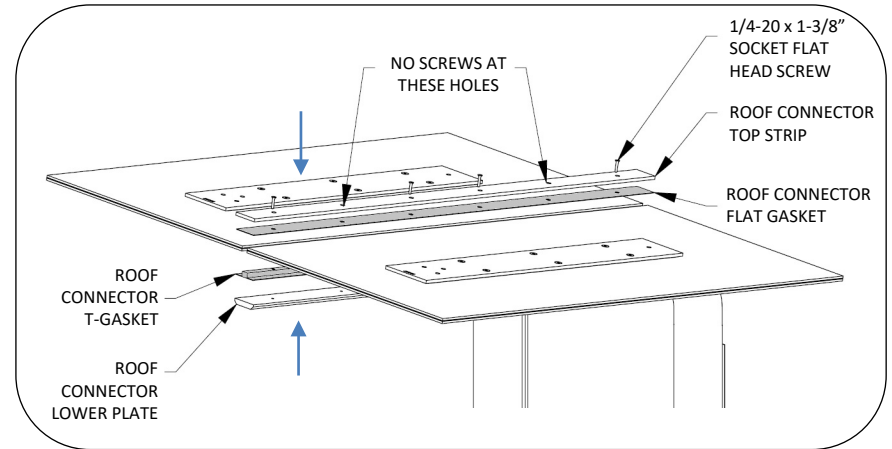
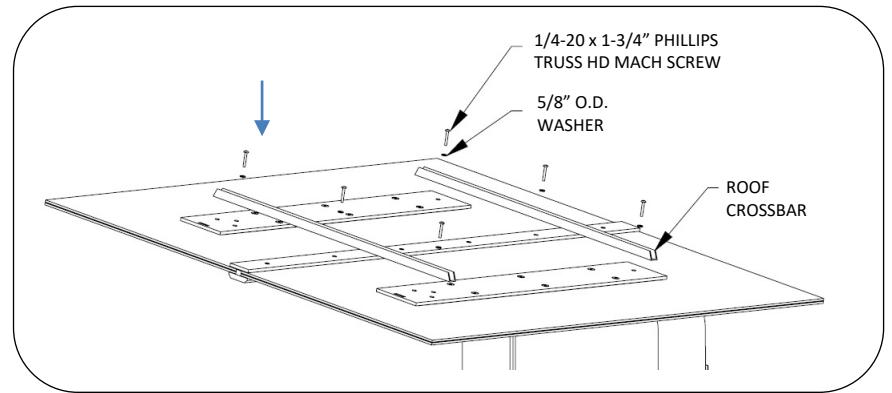

FIG. 9 – INSTALL ROOF PANEL CONNECTORS
FIG. 10 – INSTALL ROOF PANEL CROSSBARS
12. For multi-post shelters, roof connecting components are included. Keep glass panel hardware loose until all connecting components have been installed. Install glass panel connectors first, as shown in Fig. 9., then install roof crossbars, see Fig. 10.